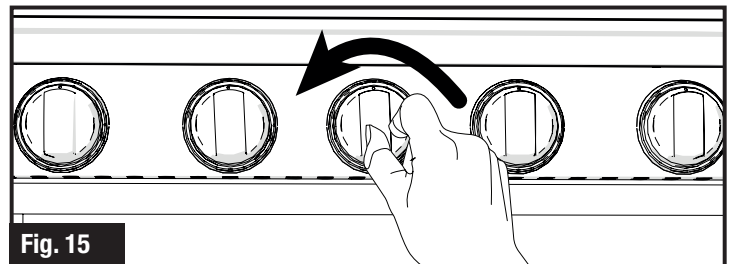

Fig. 15
1. Turn the appropriate burner control knob counterclockwise to the 🔧 position. (Fig. 15)